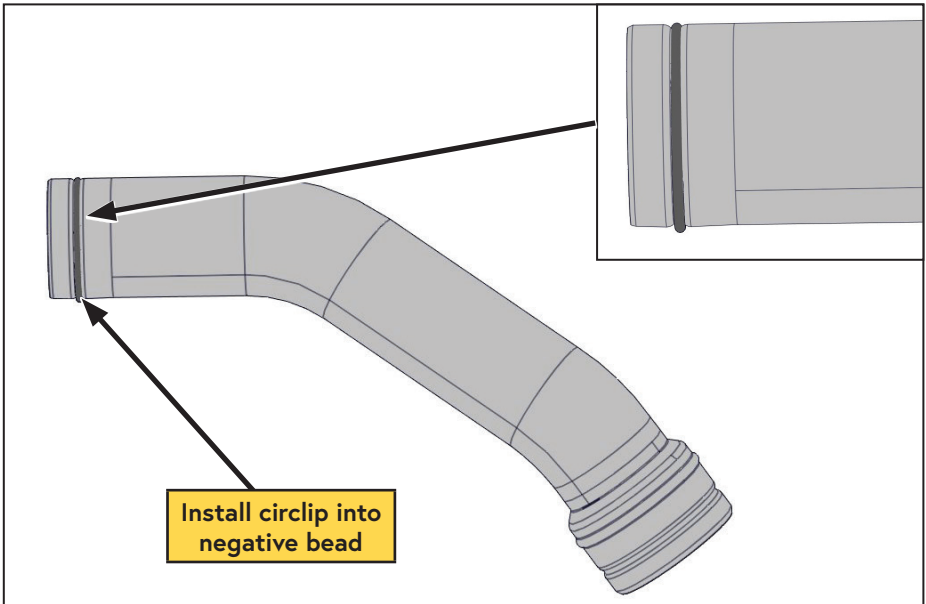

Figure 101 — Install circlip
- ☐ Install the circlip into the negative bead of the OEM steel duct (Figure 101).